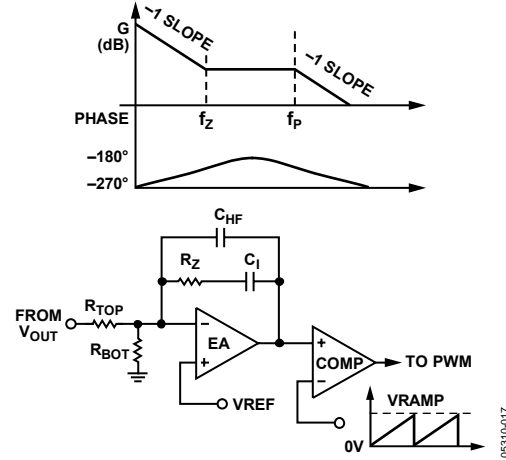

Figure 17. Type II Compensation
D. Venable, in his article "The K Factor: A New Mathematical Tool for Stability Analysis and Synthesis," 1983, showed that an optimum compensation solution was to place the zeros and poles symmetrically around the crossover frequency. He derived a factor known as K with which the frequencies of the compensation zeros and poles may be calculated. K is calculated for the type of compensation selected Figure 17.